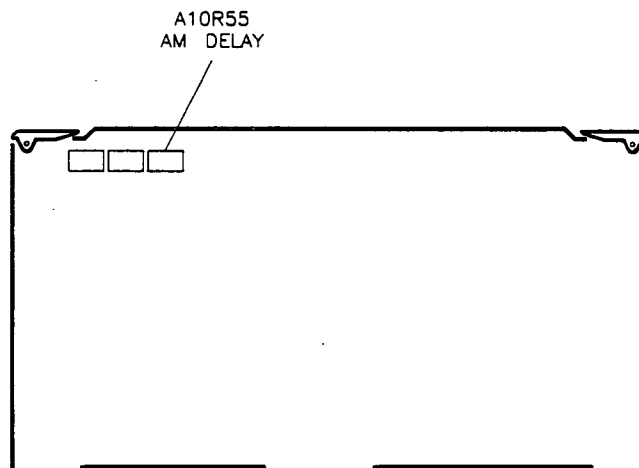

Figure 3-33. AM Delay Adjustment Location
6. Adjust A10R55 (see figure 3-33) for a minimum ac voltage reading on the DVM.